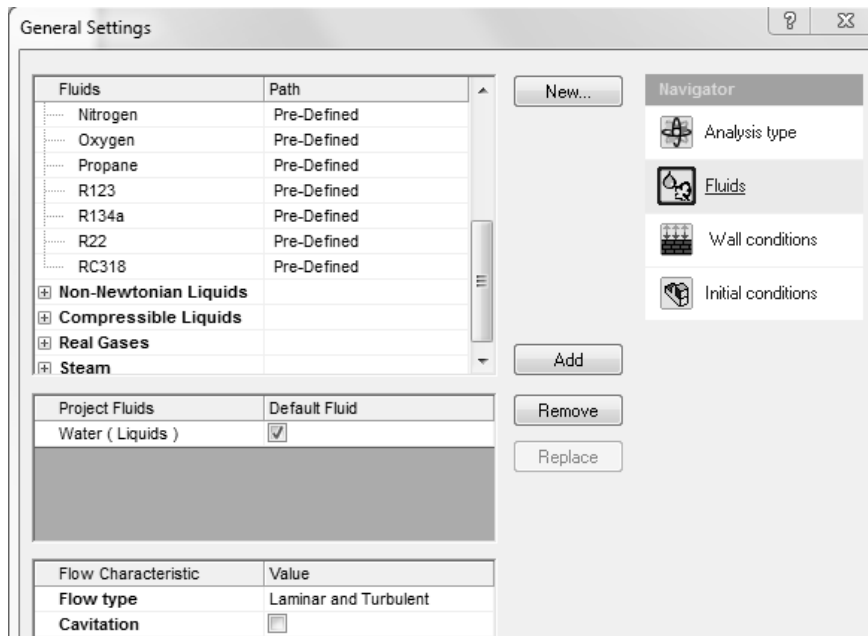

Figure 2.27d) Selection of fluid and flow type
29. In the next step, we will clone the project. Select **Flow Simulation>>Project>>Clone Project...**. Create a new project with the name “**Flat Plate Boundary Layer Study Using Water**”. Click on the **OK** button to exit the **Clone Project** window. Next, change the fluid to water in order to get higher Reynolds numbers. Start by selecting **Flow Simulation>>General Settings...** from the SolidWorks menu. Click on **Fluids** in the **Navigator** portion and click on the **Remove** button. Select **Water** from the **Liquids** and **Add** it as the **Project Fluid**. Change the **Flow type** to **Laminar and Turbulent**, see figure 2.27d). Click on the **OK** button to close the **General Setting** window.